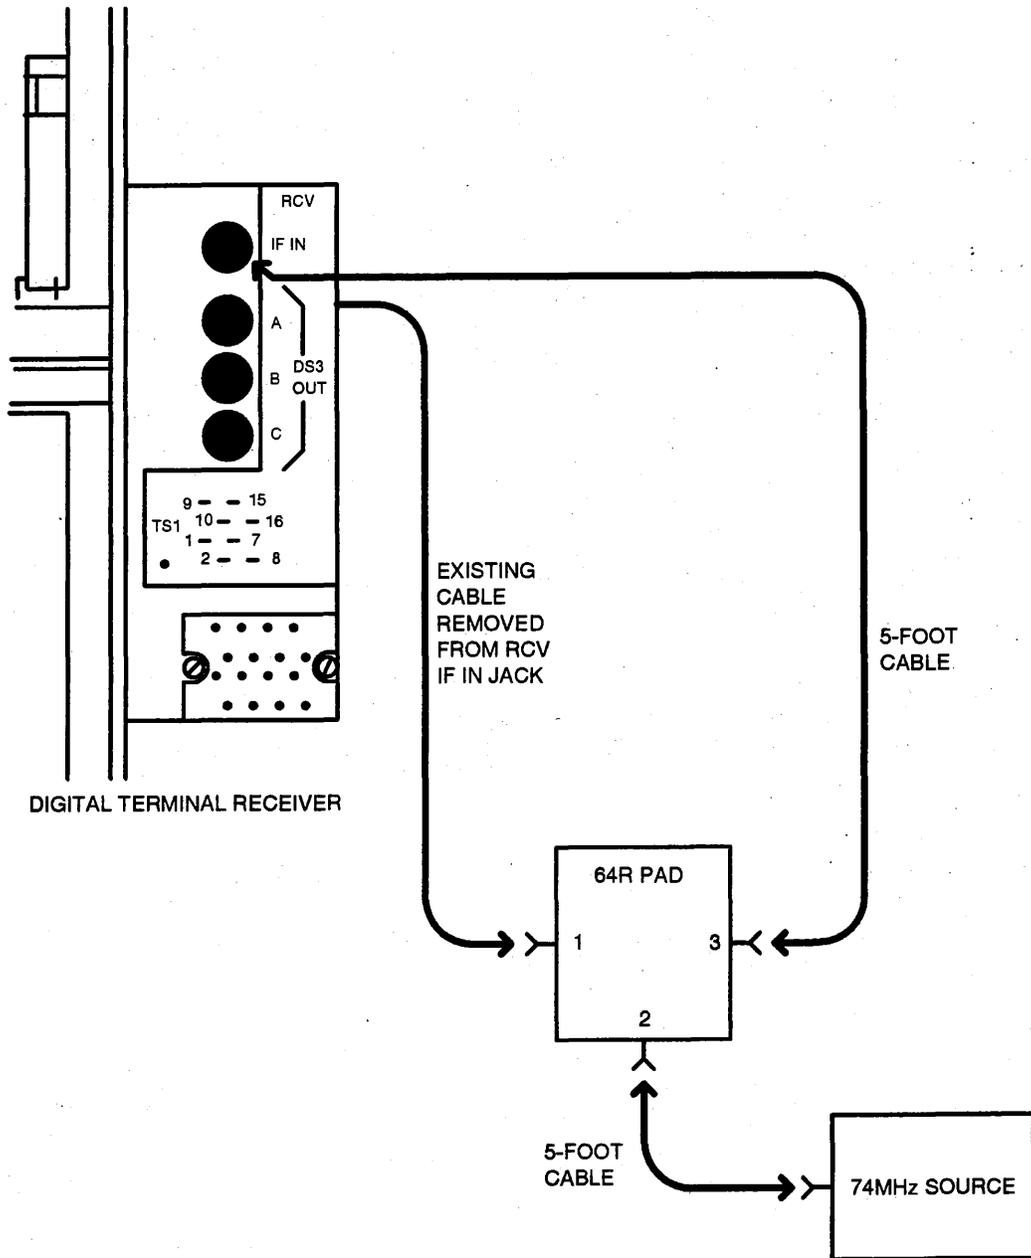

Figure 5- Terminal Over-the-Air S/I Stress Check Test Connections
The test configuration used for this evaluation is shown in Figure 5. An unequal loss combining network is inserted in the coaxial IF input path to the digital terminal receiver for the hop and channel under test. The normal IF input signal is connected through the low-loss path of the combining network, and an adjustable level 74-MHz interference tone is injected into the IF input signal by the high-loss path. For evaluation, a specified S/I ratio is established by independent power measurements of the "S" and "I" components at the output of the combining network corresponding to the digital receiver IF input.
**Note:** Determine the "S" and "I" test cables to establish the setup shown in Figure 5; then keep the same cables for all tests in this procedure.
**Establish the IF "S+I" Test Connections (Figure 5)**
7. Make test connections as shown in Figure 5.